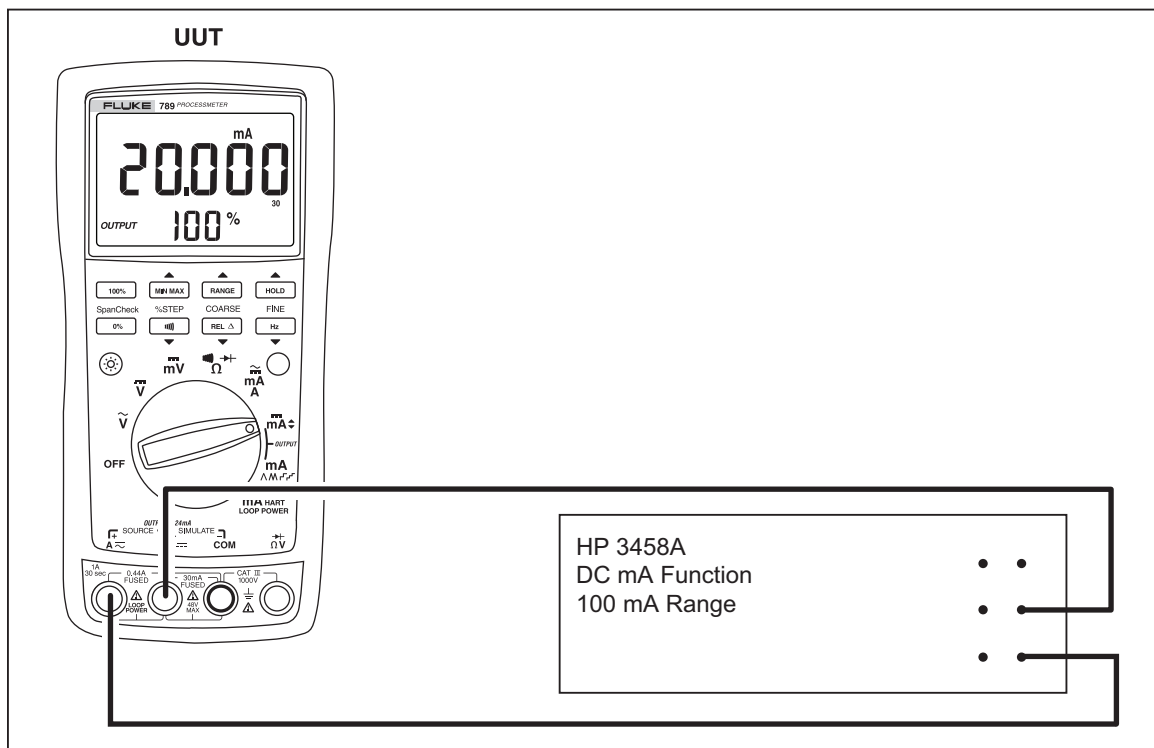

Figure 3. Current Sourcing Connections Using the HP 3458A
2. Connect the **SOURCE + (A $\overline{\sim}$)** and **– (mA $\overline{\sim}$)** terminals on the UUT to the current terminals on the multimeter as shown in Figure 3.